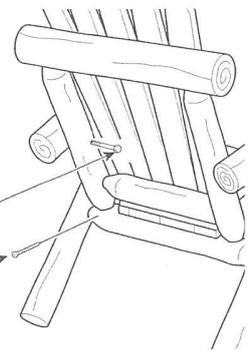

figure 4
STEP 4 Set chair in upright position on a level surface and when legs are in proper position, bring ARM in against URIGHT. Tighten the preinstalled lag screws into the pilot hole in the arm with a wrench or socket. Secure doweled joints in place with screws perpendicular to the doweled ends as shown in figure 4. Repeat on other side.